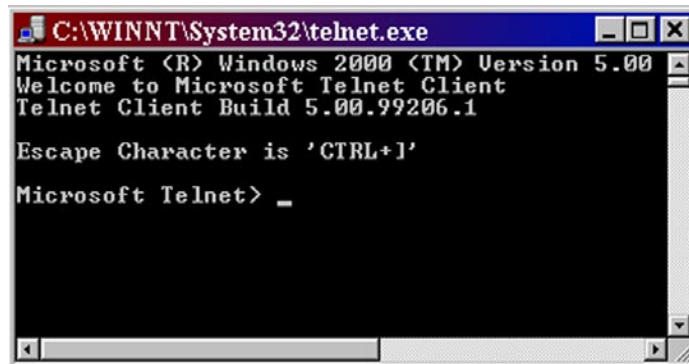

Figure A-3 — Telnet screen
4. At the DOS prompt, type *telnet* and then press Enter. The computer returns a display similar to figure A-3.